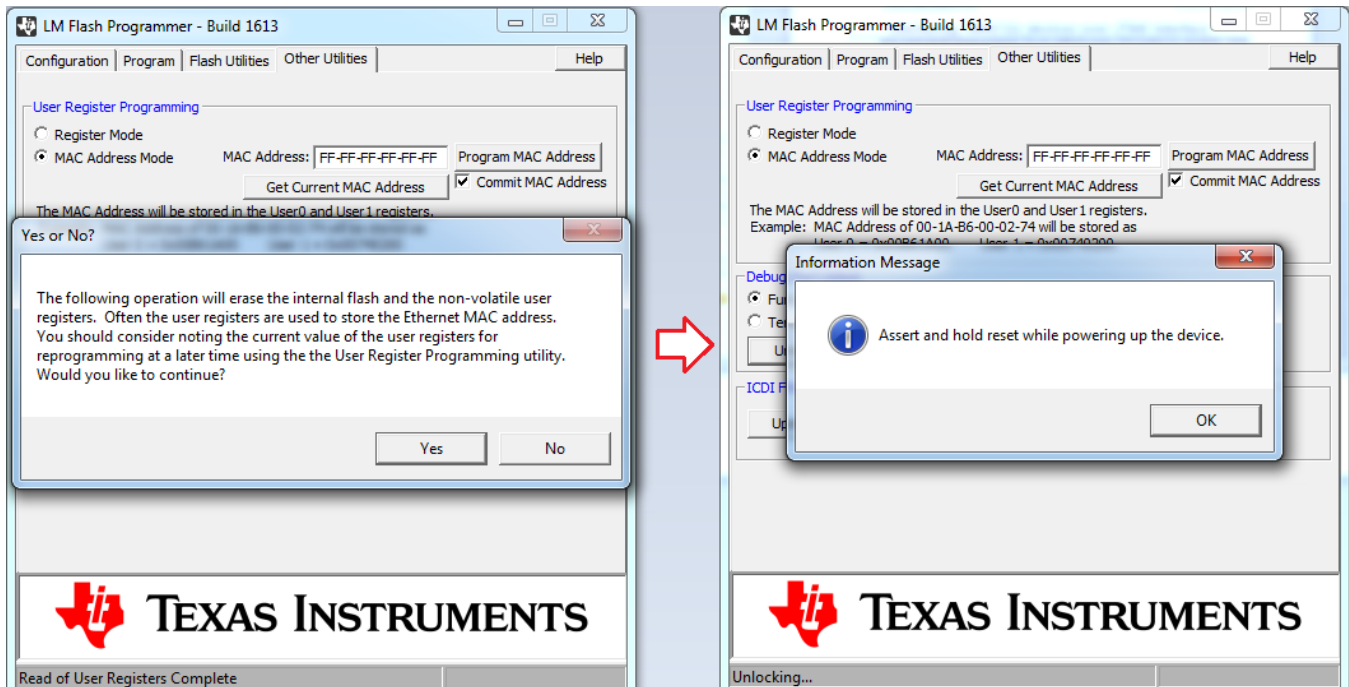

Figure 18. Executing Unlock Sequence-1
4. Press the “Unlock” button in LMFlashProgrammer. Press “Yes” in the pop up message box and then press “OK” in the information message box (see Figure 18).